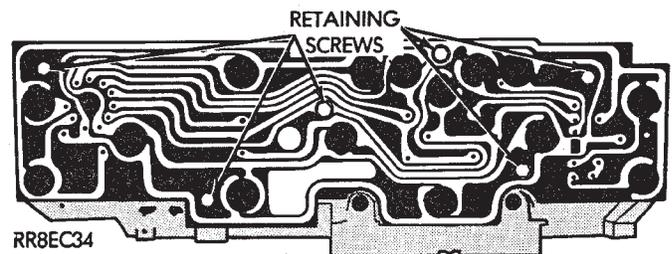

Fig. 16 Printed Circuit Board
- If there is continuity, replace the print circuit board (Fig. 16).